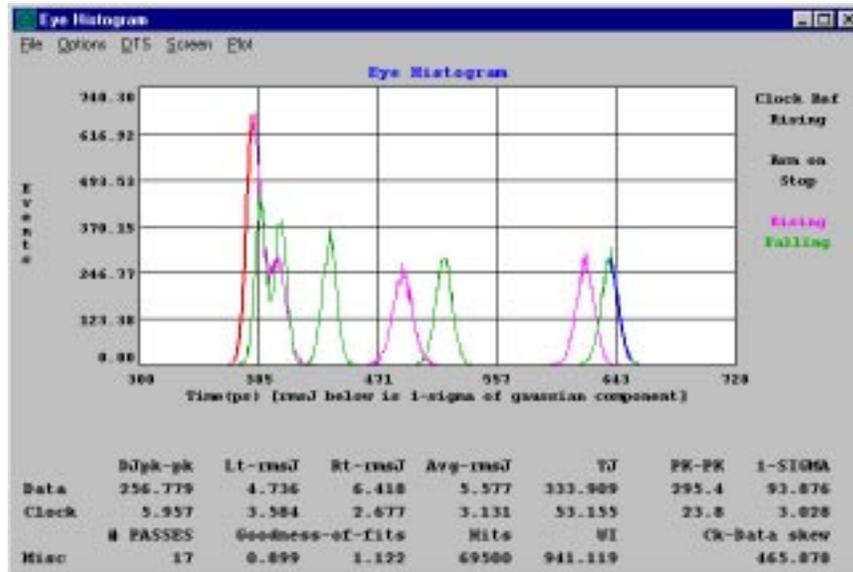
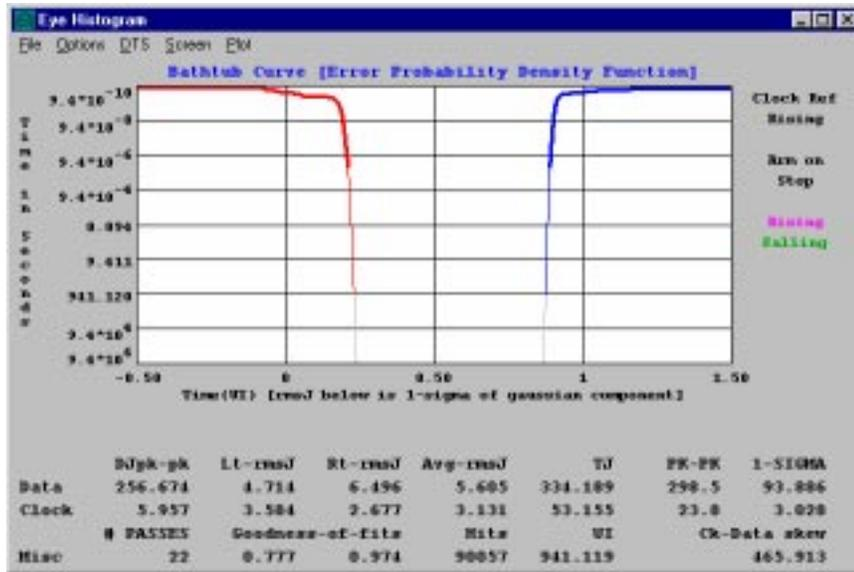

Figure 6.6 Eye Histogram
Figure 6.7 Eye Histogram - Bathtub Curve
When a tail-fit is successfully completed the calculated tail-fits are plotted on top of the raw histogram, and values for the Deterministic Jitter, Random Jitter, Chi-square goodness of fit, and Total Jitter are displayed (See Figure 6.6). You can also view the resulting Bathtub Plot which is based on the PDF of the raw histogram with extrapolated tails calculated from the tail-fit (See Figure 6.7). The Total Jitter is extracted directly from the Bathtub Plot. Note: For Histogram panel only - The Total jitter Specification (UI) that is used for this calculation is User Defined, make sure that reasonable values are assigned for this as well as the Bit Error Probability.